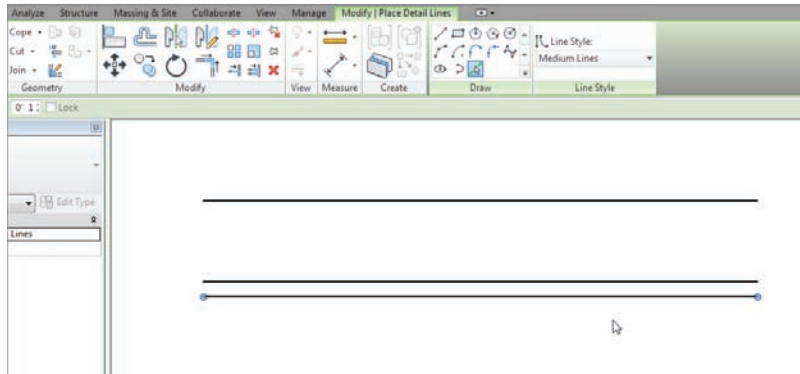

FIGURE 12.62 Using Pick Lines and adding an offset of 1 1/2"
8. Offset the bottom line down 1 1/2". Your detail should look like Figure 12.62.